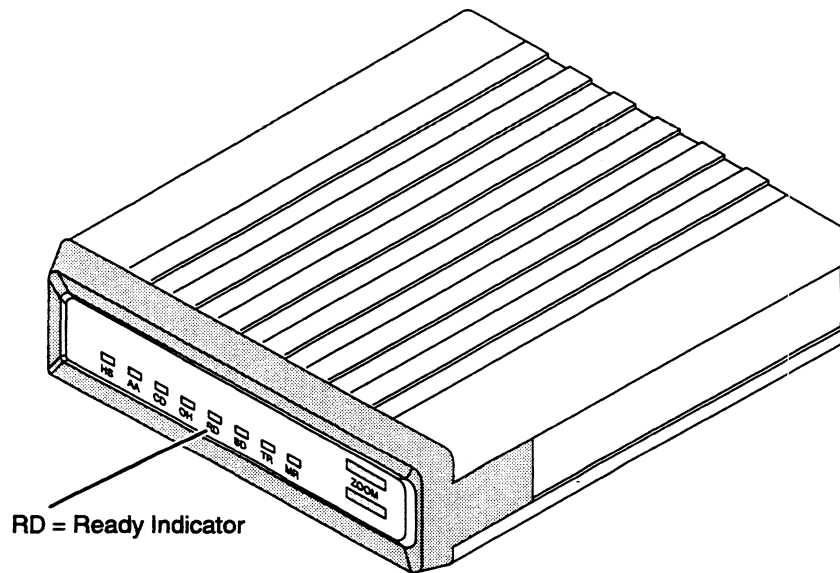

Figure 2-4 Modem Front Panel Ready Indicator
The modem runs internal diagnostic tests; the modem ready (RD) indicator, shown in Figure 2-4, illuminates when these tests complete.